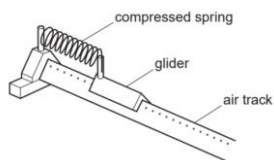

Fig. 6.2
- c) A glider of mass 0.180 kg is placed on a horizontal frictionless air track. One end of the glider is attached to a compressible spring of force constant  $50 \text{ N m}^{-1}$ . The glider is pushed against a fixed support so that the spring compresses by 0.070 m, see Fig. 6.2. The glider is then released.